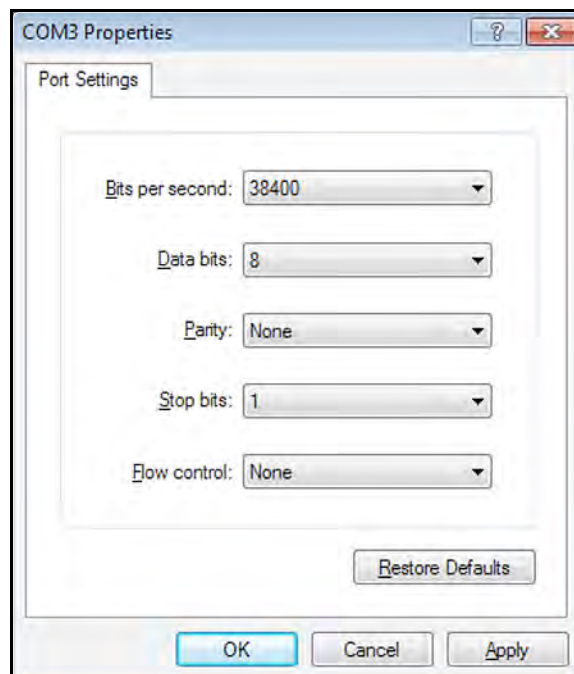

Figure 11: COM Properties
2. Start **HyperTerminal** and set up the communication link (see *Figure 11* below) to match the PT878 Com port settings.